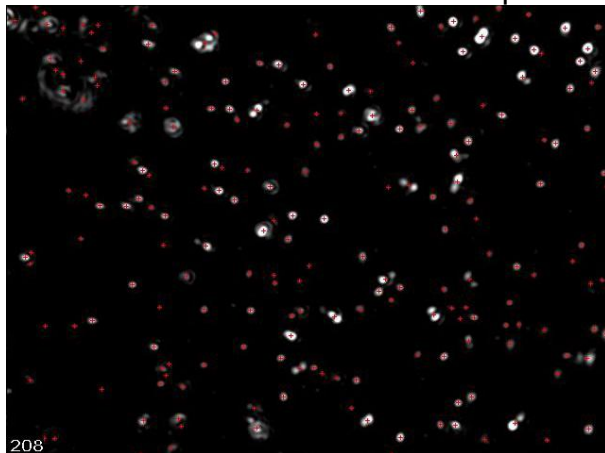

Figure 1. Too high concentration, 208 particles identified.
- d) In the bottom left of the screen there is a count of the number of potential particles identified. (see figure 1)